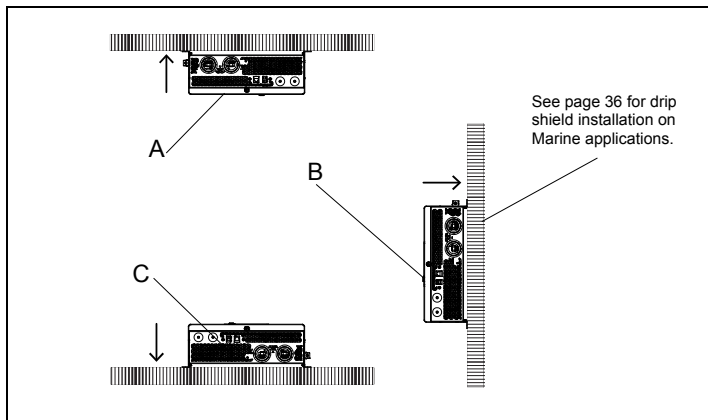

Figure 2 Approved Mounting Orientations
2. Select an appropriate mounting location and orientation. (See Figure 2 below.) To meet regulatory requirements, for use in on-land applications, the Freedom X must be mounted in one of the following orientations: